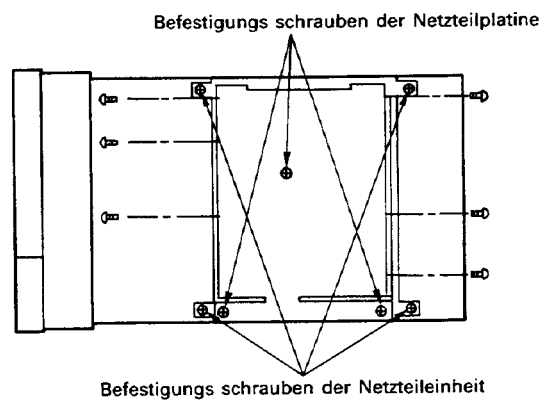

Abb. 2-2
1. The front side (part side) of the video copy PCB can be almost checked by removing the power supply unit as shown in Fig. 2-2.